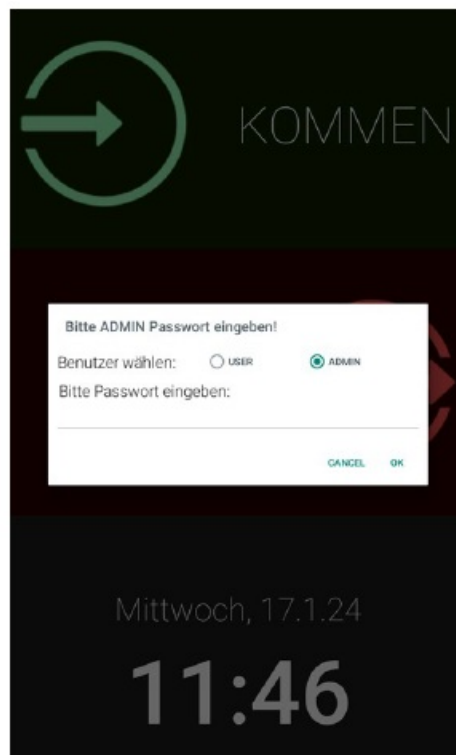

Fig. 9
3. Finally, choose the user type (user or admin) under “Benutzer wählen” and enter the password defined during configuration (Fig. 9).
Depending on the user type previously selected (refer to Fig. 9), you can view and change the following settings